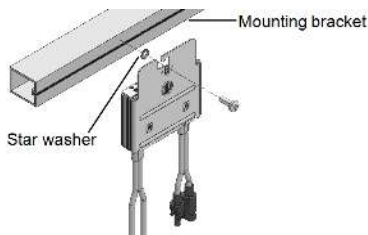

Figure 2: Power optimizer installation and grounding using a star washer
1. Determine the power optimizer mounting location and use the power optimizer mounting brackets to attach the power optimizer to the support structure (See Figure 2). For frame-mounted power optimizers follow the instructions supplied with the optimizers.